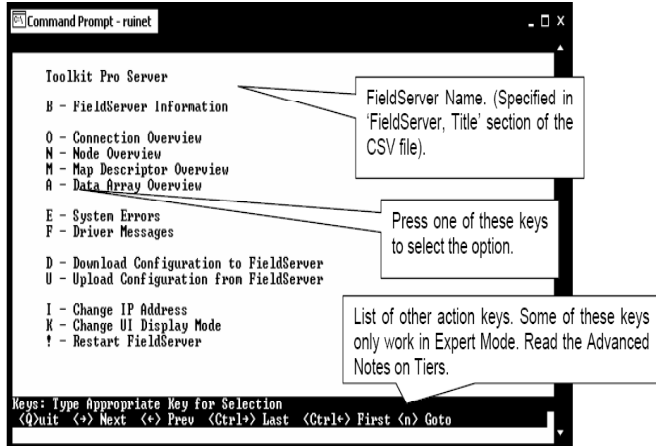

Figure 14: RUINET PT-Link II Main Menu
8.) Once connected, you will see the *RUINET Main Menu* (Figure 14). Unless you need to make changes to the config.csv file (steps 7 through 15), you are now ready to send and receive files to and from the PT-Link.